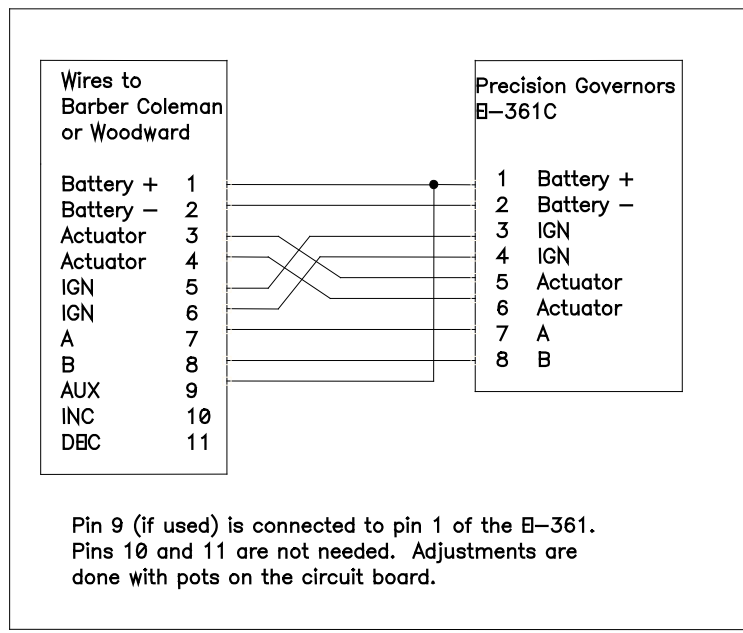

Figure 1 Retrofit Wiring
- 2) Wire per the attached schematic, Figure 1. **BE SURE TO OBSERVE CORRECT POLARITY.** Note some wire locations are different than the original controller. Refer to Figure 1.
See Figure 1 for the controller wiring changes.
Refer to Figure 1 for pin functionality. E-361D terminal "A" corresponds to E-361C pin 1, terminal "B" to pin 2, terminal "C" to pin 3,etc. Again, the E-361D does not require wiring modifications.